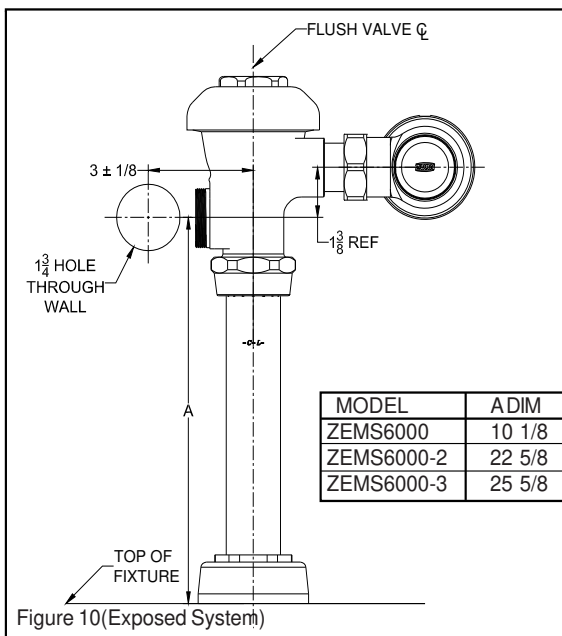

Figure 10(Exposed System)
**Motor Actuator Installation (Figure 10)**
1. Drill 1-3/4" diameter hole per Figure 10.